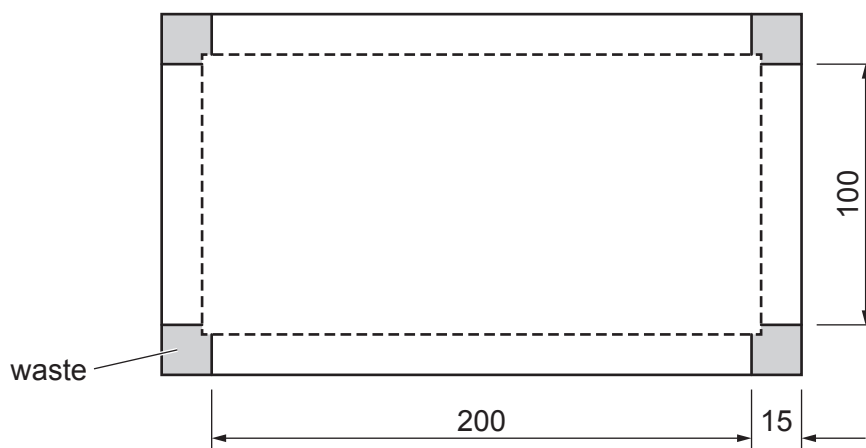

Fig. 12.2
- (b) Fig. 12.2 shows a development (net) of the base of the tape dispenser marked out on 1.6 mm thick mild steel sheet.